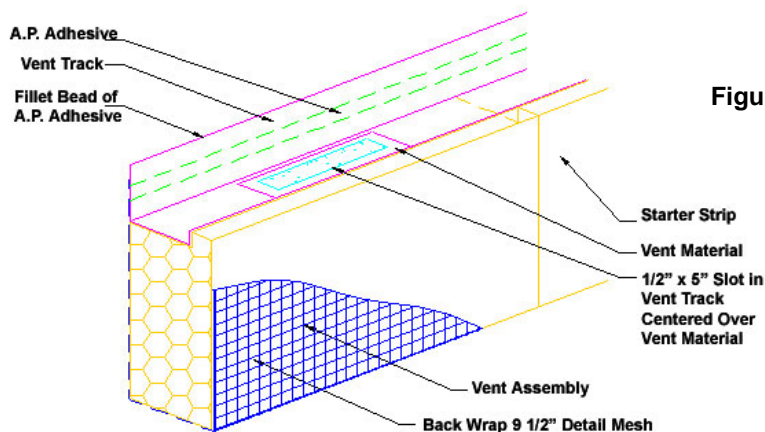

Figure 19
7. Install the Dryvit Vent Track and Dryvit Track by applying a continuous horizontal bead of Dryvit's AP Adhesive on the wall side of the vertical nailing flange of the track and position over the Dryvit Starter Strip. When installing the Dryvit Vent Track the cut out (slot) must be located directly above the Dryvit Vent Assembly – Figure 19. Press firmly against the substrate to ensure firm and continuous contact between the adhesive and the wall surface. **NOTE: It is recommended that the surface of the Drainage Track and Vent Track be lightly sanded to improve adhesion of Backstop NT or AquaFlash.**